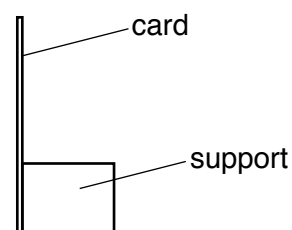

Fig. 4.2
- (v) Screen. A white sheet of stiff card approximately 15 cm × 15 cm, fixed to a wooden support is suitable. See Fig. 4.2.